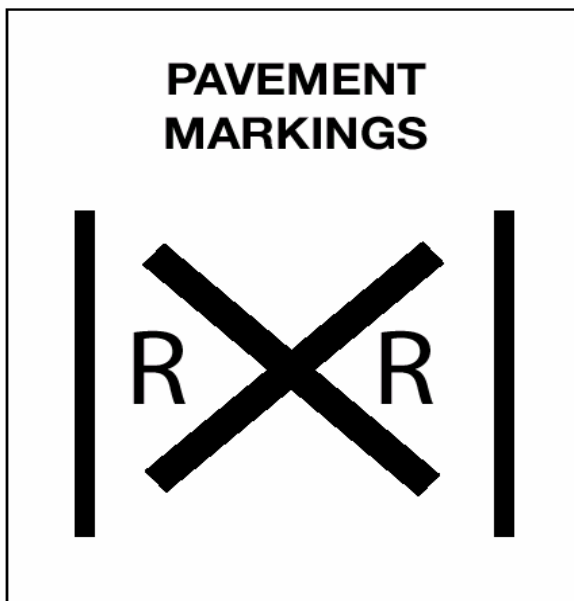

Figure 10.6
**Pavement Markings.** Pavement markings mean the same as the advance warning sign. They consist of an "X" with the letters "RR" and a no-passing marking on two-lane roads. See Figure 10.6.